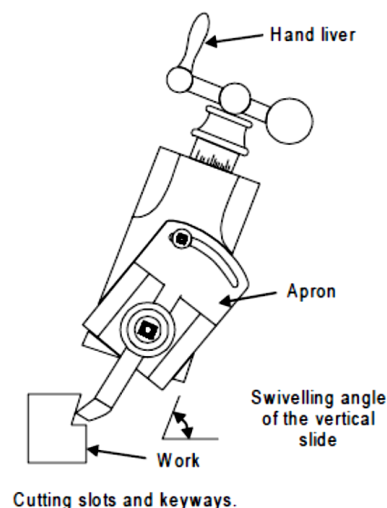

Fig. 23.9 Machining angular surface on shaper
3. Machining angular surface (Fig. 23.9)